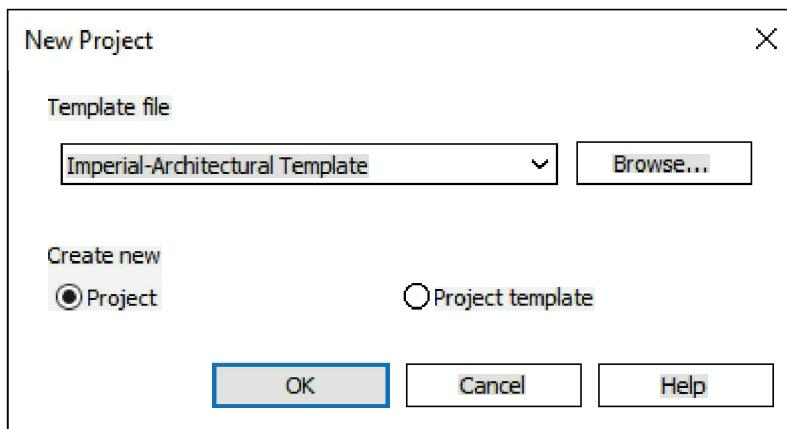

FIGURE 1-4.1 New Project dialog box
After clicking *New → Project* you will get the **New Project** dialog box (Figure 1-4.1).
2. Select the **Imperial-Architectural Template** option in the drop-down list. Leave *Create new* set to **Project** (Figure 1-4.1).